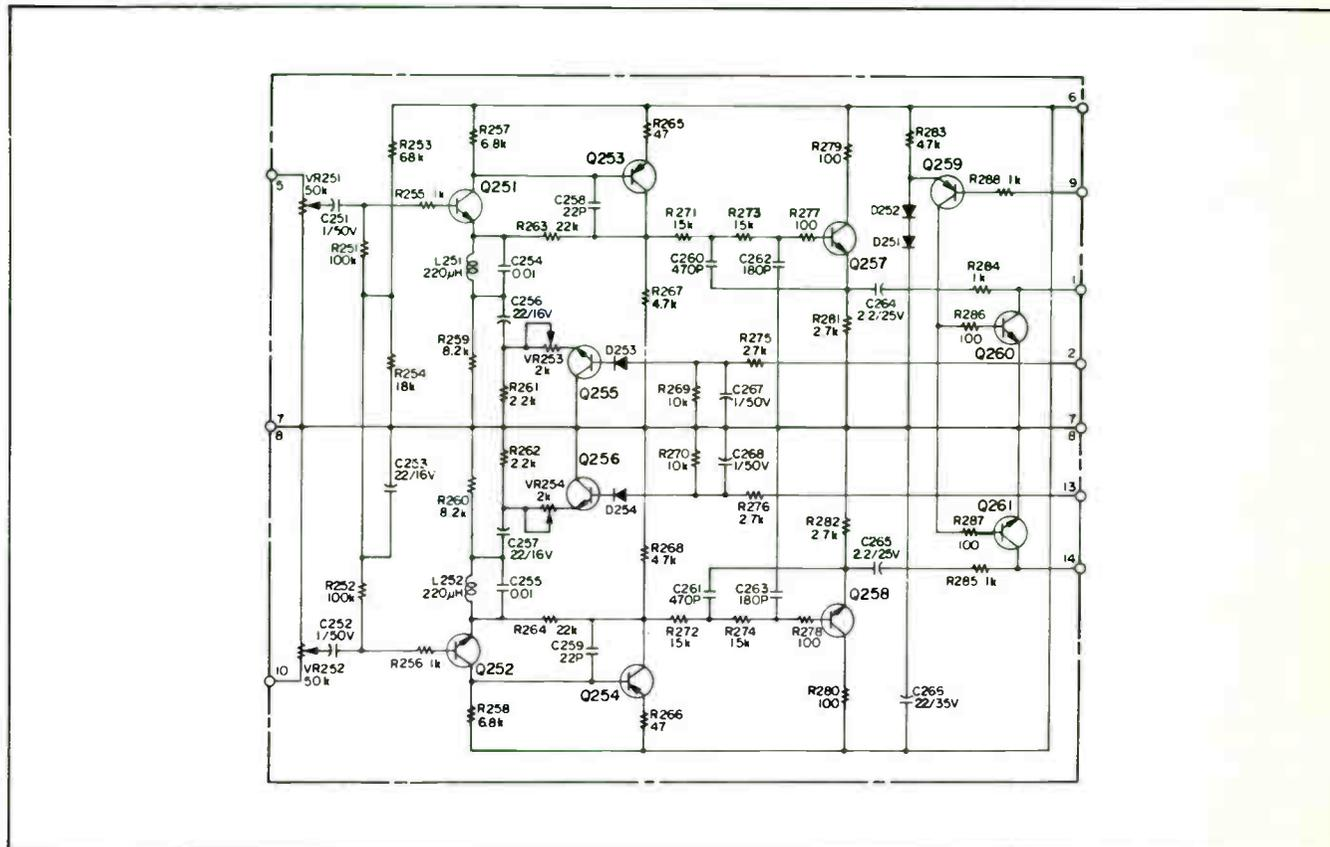

Figure 4-8. Reproduce Line Amplifier Schematic
**4-17. Reproduce Line Amplifier.** Refer to schematic, Figure 4-8. The reproduce line amplifier performs the following functions: